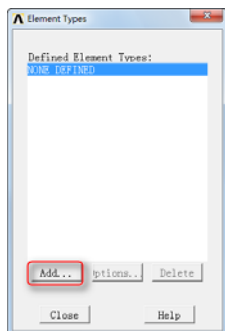

图 5-41 “Element Types”对话框
①指定单元类型：依次选择 Main Menu→Preprocessor→Element Type→Add/Edit Delete，会弹出“Element Types”对话框，如图 5-41 所示。
②单击“Add”按钮，会弹出“Library of Element Types”对话框。
③在“Library of Element Types”列表框中选择“FLOTRAN CFD 和 2D FLOTRAN